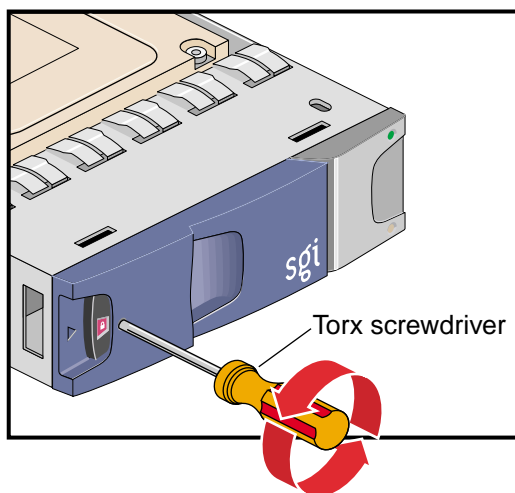

Figure 6-4 Locking the Drive Carrier Module
8. When you have finished installing the drive carrier module(s), activate the anti-tamper lock(s). Insert the key and turn it 90 degrees counterclockwise. The indicator in the drive carrier module turns red when the drive is locked. See Figure 6-4.